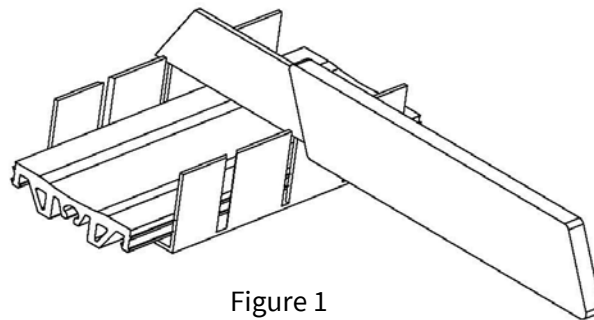

Figure 1
1. Determine the angle needed and cut ends of seal in a miter box with a sharp, non-serrated knife. **See Figure 1**